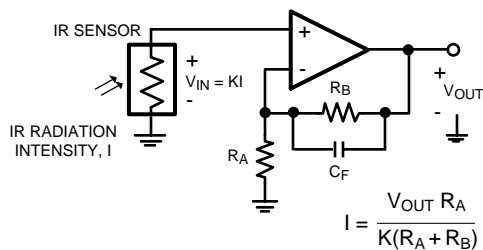

Figure 51. IR Radiation Sensor
The low input bias current and low input referred noise of the LM6211 make it ideal for sensor interfaces. These circuits are required to sense voltages of the order of a few μV , and currents amounting to less than a nA, and hence the op amp needs to have low voltage noise and low input bias current. Typical applications include infrared (IR) thermometry, thermocouple amplifiers and pH electrode buffers. Figure 51 is an example of a typical circuit used for measuring IR radiation intensity, often used for estimating the temperature of an object from a distance. The IR sensor generates a voltage proportional to I, which is the intensity of the IR radiation falling on it. As shown in Figure 51, K is the constant of proportionality relating the voltage across the IR sensor (V_{IN}) to the radiation intensity, I. The resistances R_A and R_B are selected to provide a high gain to amplify this voltage, while C_F is added to filter out the high frequency noise.